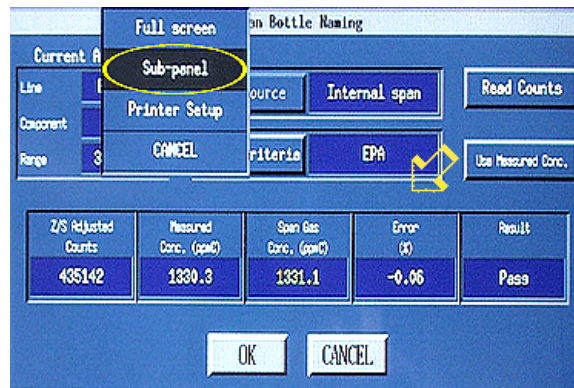

Figure 15
- 120 Click on “Sub-panel.” See the circle in Figure 15. When the menu panel disappears, click inside the “Span Bottle Naming” sub-panel. See the arrow in Figure 15.